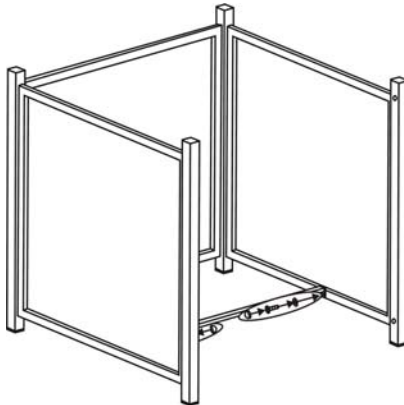

Figure 3
3. Attach the middle support to the side panels by using two 1/4"x15 mm bolts and washers as shown in Figure 3. Guide bolts through the holes in the middle support, into pre-drilled holes in the side panels. **Hand tighten only.**